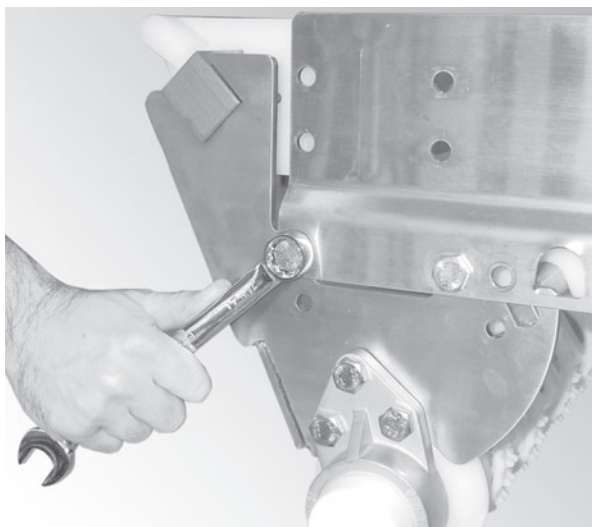

Figure 13
1. Bolt the nose bar drive tail assembly to the conveyor frame (**Figure 13**).